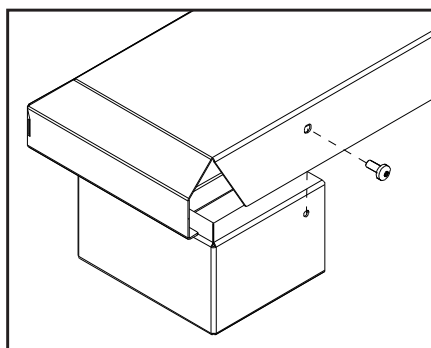

Figure 40: Installing Base Shelf onto Riser.
3. If installing with riser(s) the Base Shelf is to be fastened to the riser(s) with one T-20 screw at each end of the back (see Figure 40).